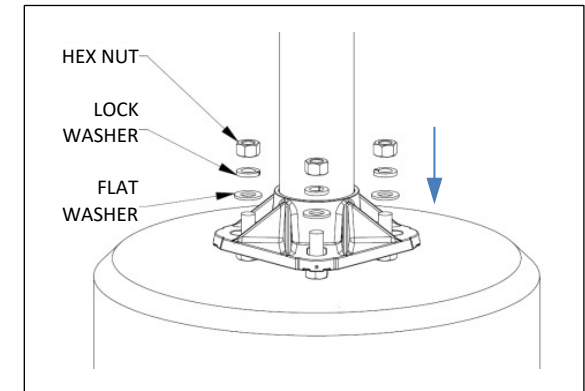

Fig. 3 – Install pole
2. Lift the light pole into position over the installed anchors (refer to Northport anchor kit installation guide) as shown in Fig. 3. Ensure that the base plate is resting on all four washers.
3. Install washer, lock washer and hex nut as shown in Fig. 3.